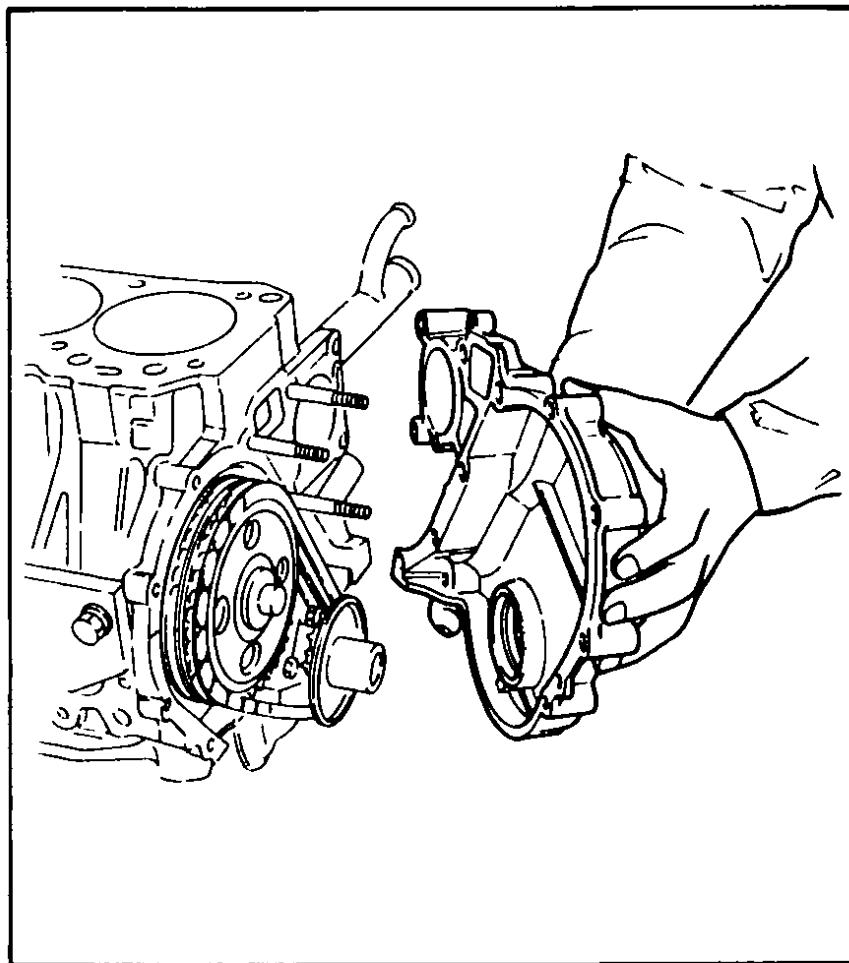

Fig 131 Removing timing chain cover
- 9 Remove the bolts that hold the cover in place and remove the cover, Fig 131